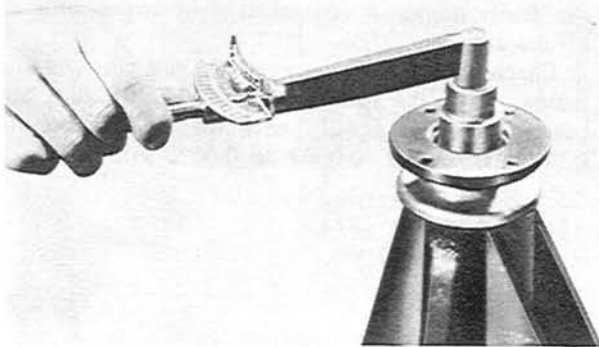

Fig. 9-21 Checking of preload
6. Tighten the pinion nut to **13 m-kg (94 ft-lb)** and check the preload as shown in Fig. 9-21.